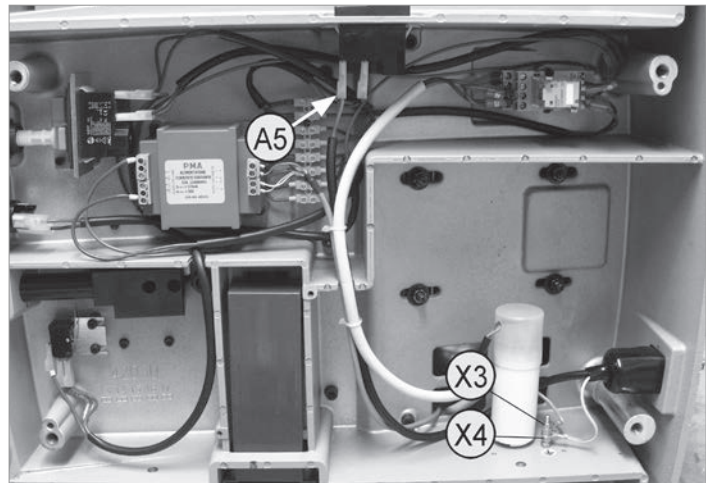

Fig.74
- 3) Disconnect the 2 connectors (A5) from the ON/OFF switch, loosen the nuts (X3) and (X4) in order to remove the earth wire, and remove the plug (Fig.74).